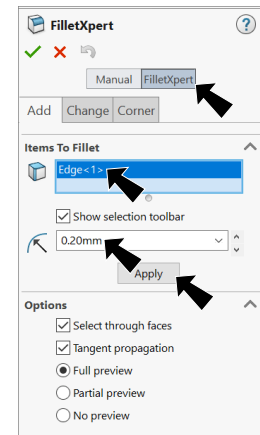

Fig. 24
Step 3. In the Fillet Property Manager set: select **FilletXpert**, **Fig. 24**
① **Radius**  **.2**